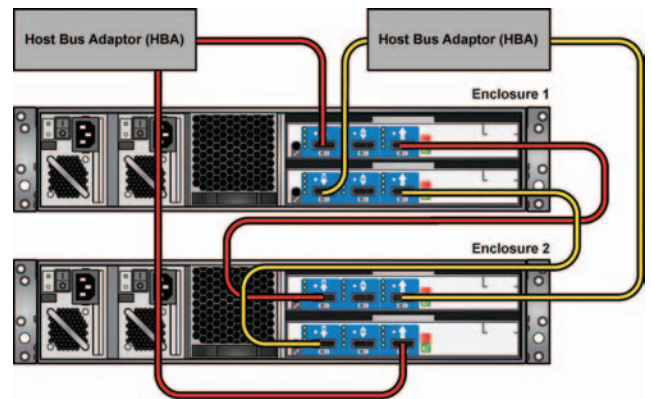

Figure 15: Dual Host, Dual Connection
1. Ensure the anti-tamper lock is disengaged (see Figure 15).
5. Carefully insert the anti-tamper lock key provided into the cutout in the handle and rotate the key in a clockwise direction until the red indicator is visible in the aperture beside the key (see Figure 15).